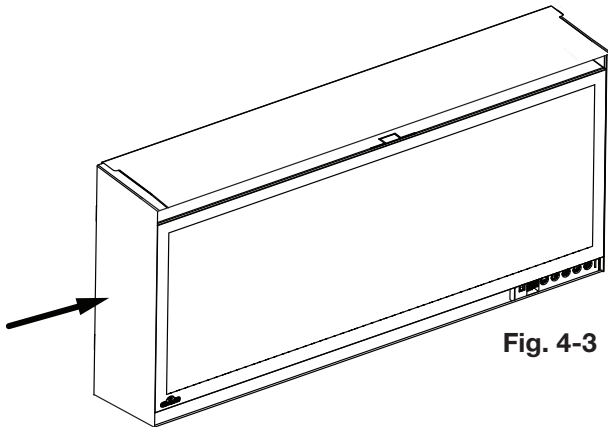
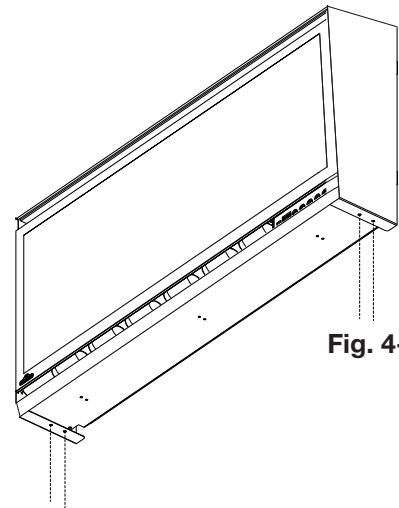

Fig. 4-3
Fig. 4-4
1. Install left and right panels (**Fig. 4-3**) by securing 4 fasteners (2 per panel) to bottom of appliance (**Fig. 4-4**).